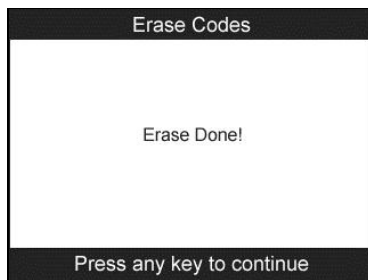

Figure 6.7
- 3) If the codes are cleared successfully, an “**Erase Done!**” message shows on the screen. Press any key to continue (Figure 6.7).